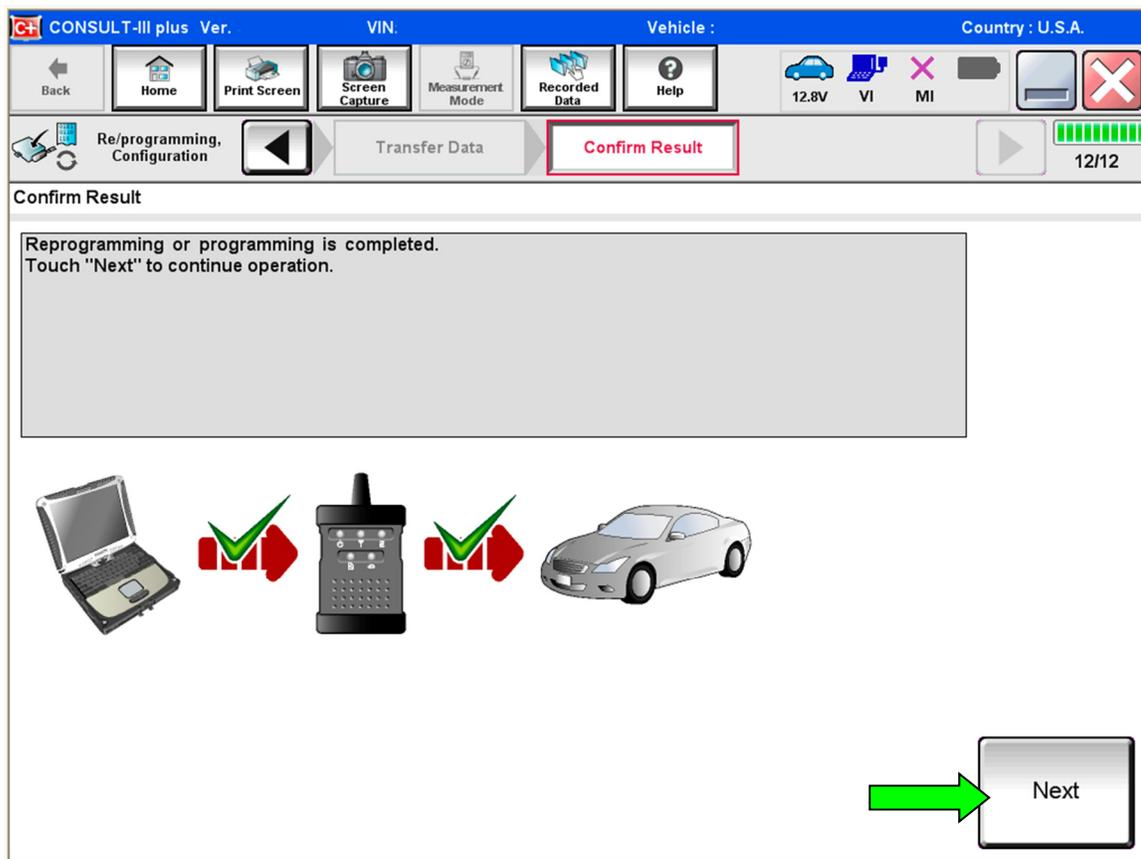

Figure 6
9. When the screen in Figure 6 displays, reprogramming is complete.
NOTE: If the screen in Figure 6 does not display (indicating that reprogramming did not complete), refer to **TCM Recovery** on the next page.